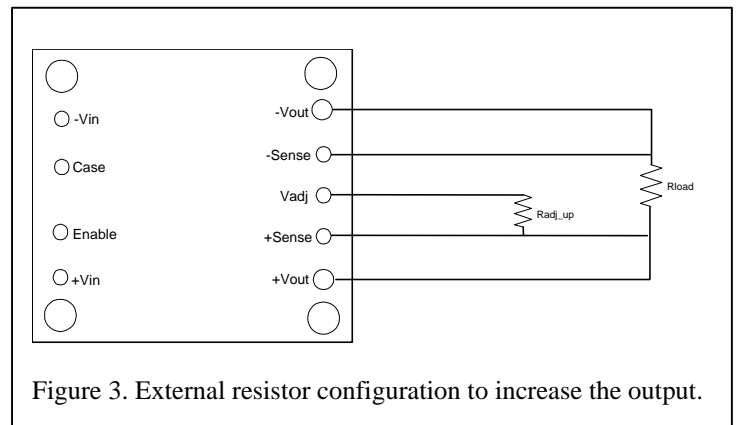

Figure 3. External resistor configuration to increase the output.
9. Refer to Equation (1) and (2) and Figures 3 and 4 for the Output Trim Adjust configuration.